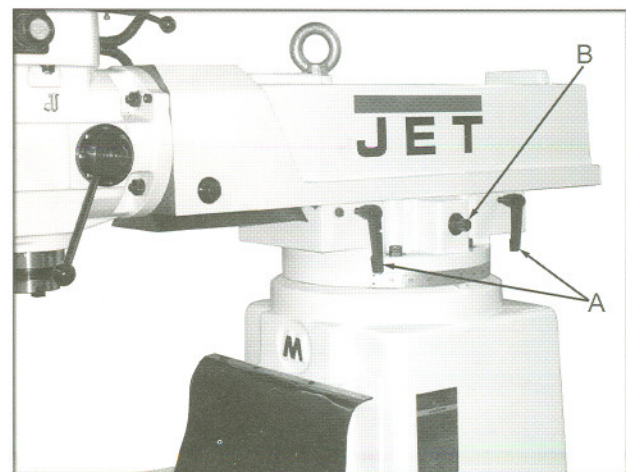

Fig. 12
1. Loosen two ram locking handles (A, Fig. 12).
2. Move the ram by turning the hex head of the ram pinion (B, Fig. 12) with a 19mm socket and breaker bar.